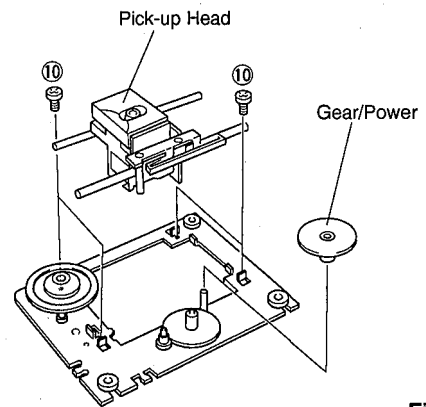

Fig. 6
- c. Pull out the Gear/Power as shown in Fig. 6.
- d. Remove 4 screws (10) and then remove the Pick-up Head as shown in Fig. 6.